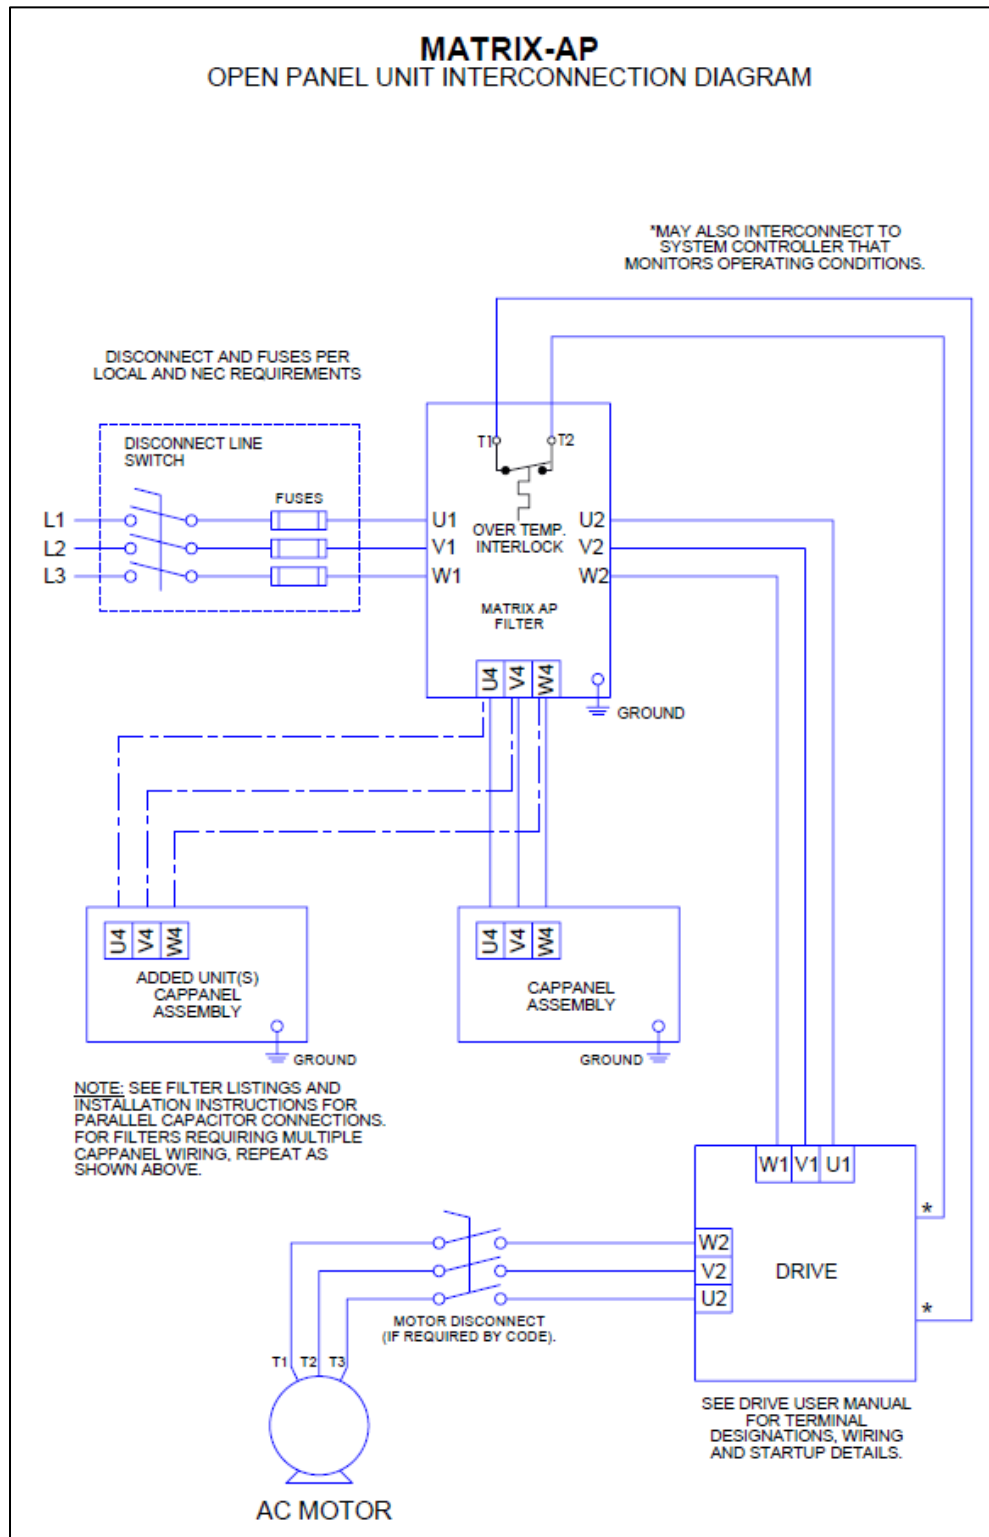

Figure 5-2: Open Panel Interconnection
- For panel mounted filter applications, interconnection between the filter, its power source, the cap-panels, and the drive is shown in Figure 5-2: Open Panel Interconnection (p31).